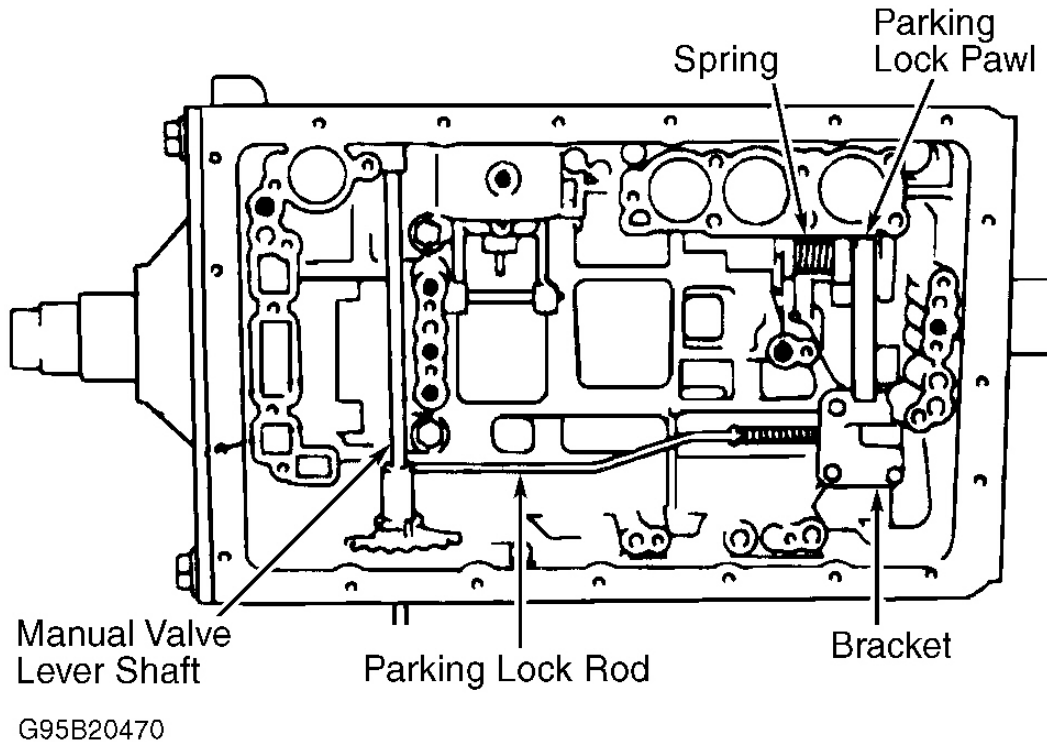

Fig. 6: Removing Parking Lock Pawl Components
1. Remove control valve assembly. Remove parking lock pawl bolts and bracket. Remove parking lock rod from manual valve lever. Remove parking pawl torsion spring. Pull out pivot pin and remove parking lock pawl. See **Fig. 6**.